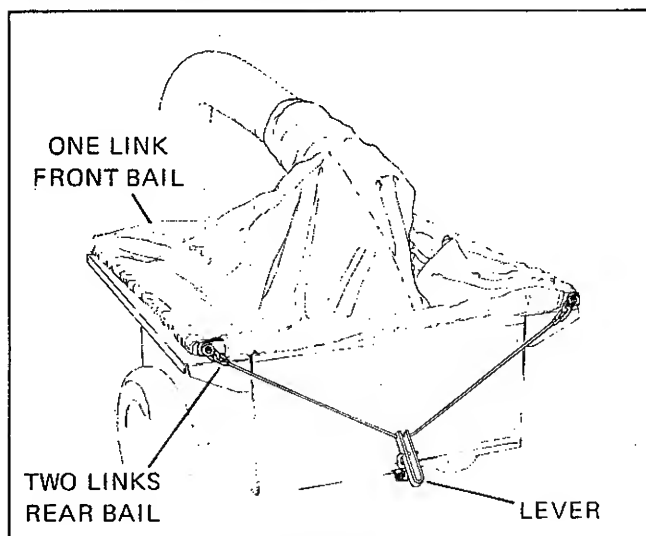

FIGURE 16
1. Insert each bail through slotted hole in lever and center the lever on the bail (Figure 16).
2. Attach one link to each end of one bail and two links to each end of other bail (Figure 16). The bail with two links each will be placed later at rear of cart and the bail with one link each at the front.
8. Lay cover assembly on cart with canvas side flaps inside and cover nozzle toward cart drawbar. Be sure pins are inserted completely into side panel outside holes (Figure 16).